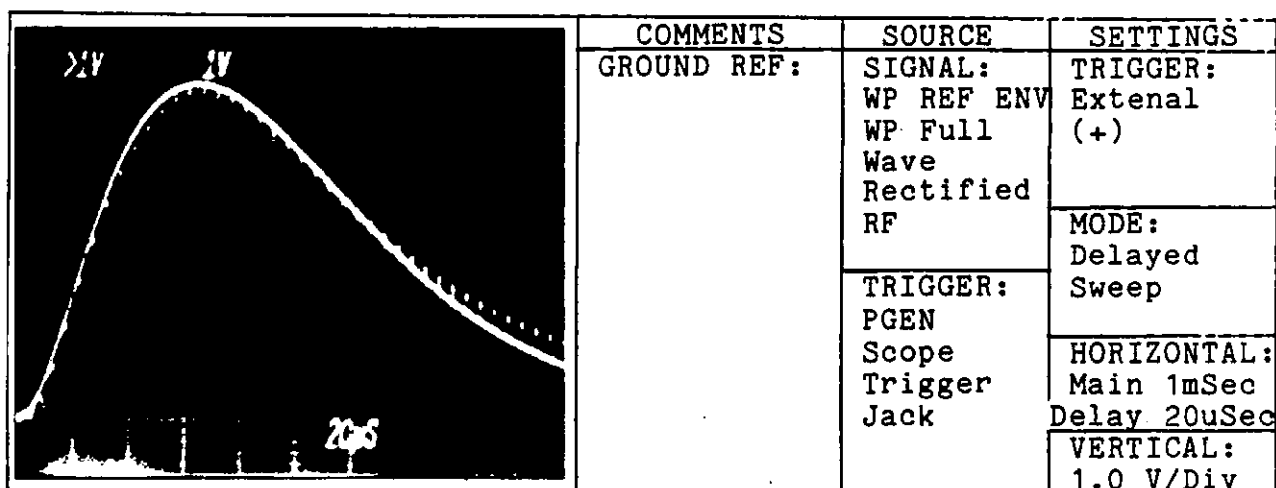

Figure 2.39. RF Waveform and Reference Envelope with Tail Drive
d. Adjust R25 in small increments so that the transmitted tail matches as closely as possible the Reference Envelope between 80-120 usec, measured from the start of the pulse. (see figure 2.39)